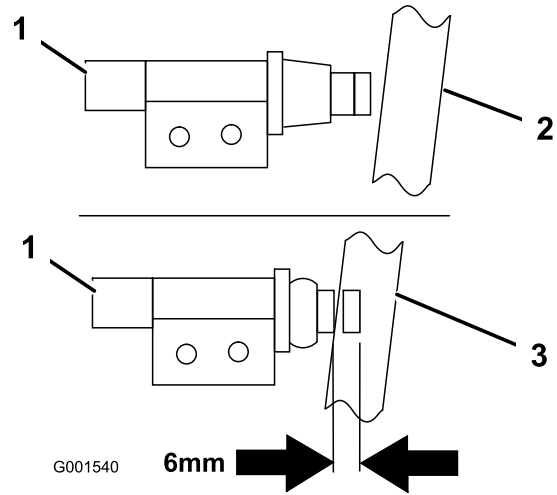

Figure 41
2. Adjust the new switch so the brake button is depressed 6 mm (1/4 inch) when the brake is released (Figure 41).